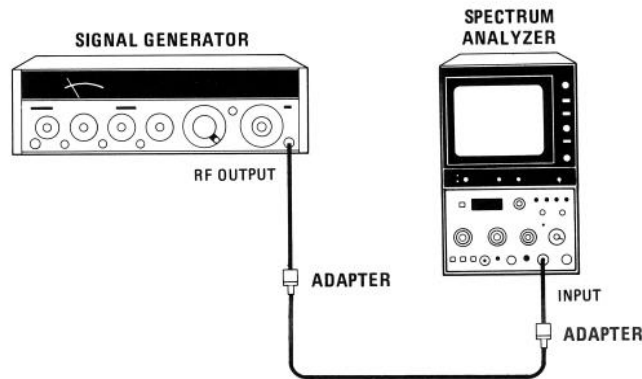

FIGURE 4-8. RESOLUTION BANDWIDTH ACCURACY TEST SETUP, 3 MHz TO 100 kHz
2. Connect equipment as shown in Figure 4-8.